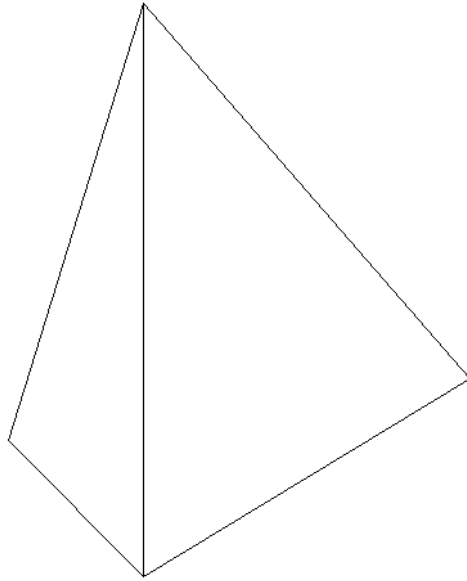

Figure 9.1
1. First construct the Tetrahedron, **Figure 9.1**. See Chapter 3, Tetrahedron.